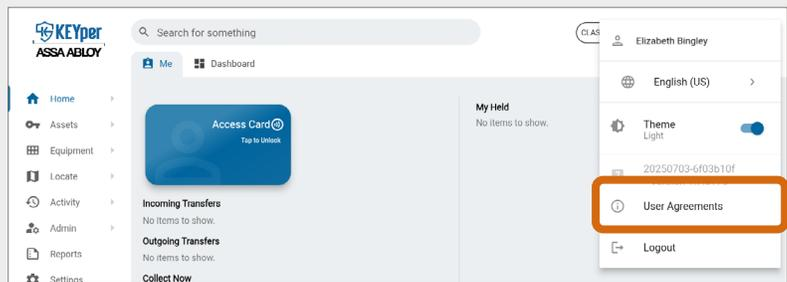

Fig. 139 – Select User Agreements from the Profile dropdown menu
2. Select **Profile**  , then select **User Agreements**, as shown in Fig. 139.